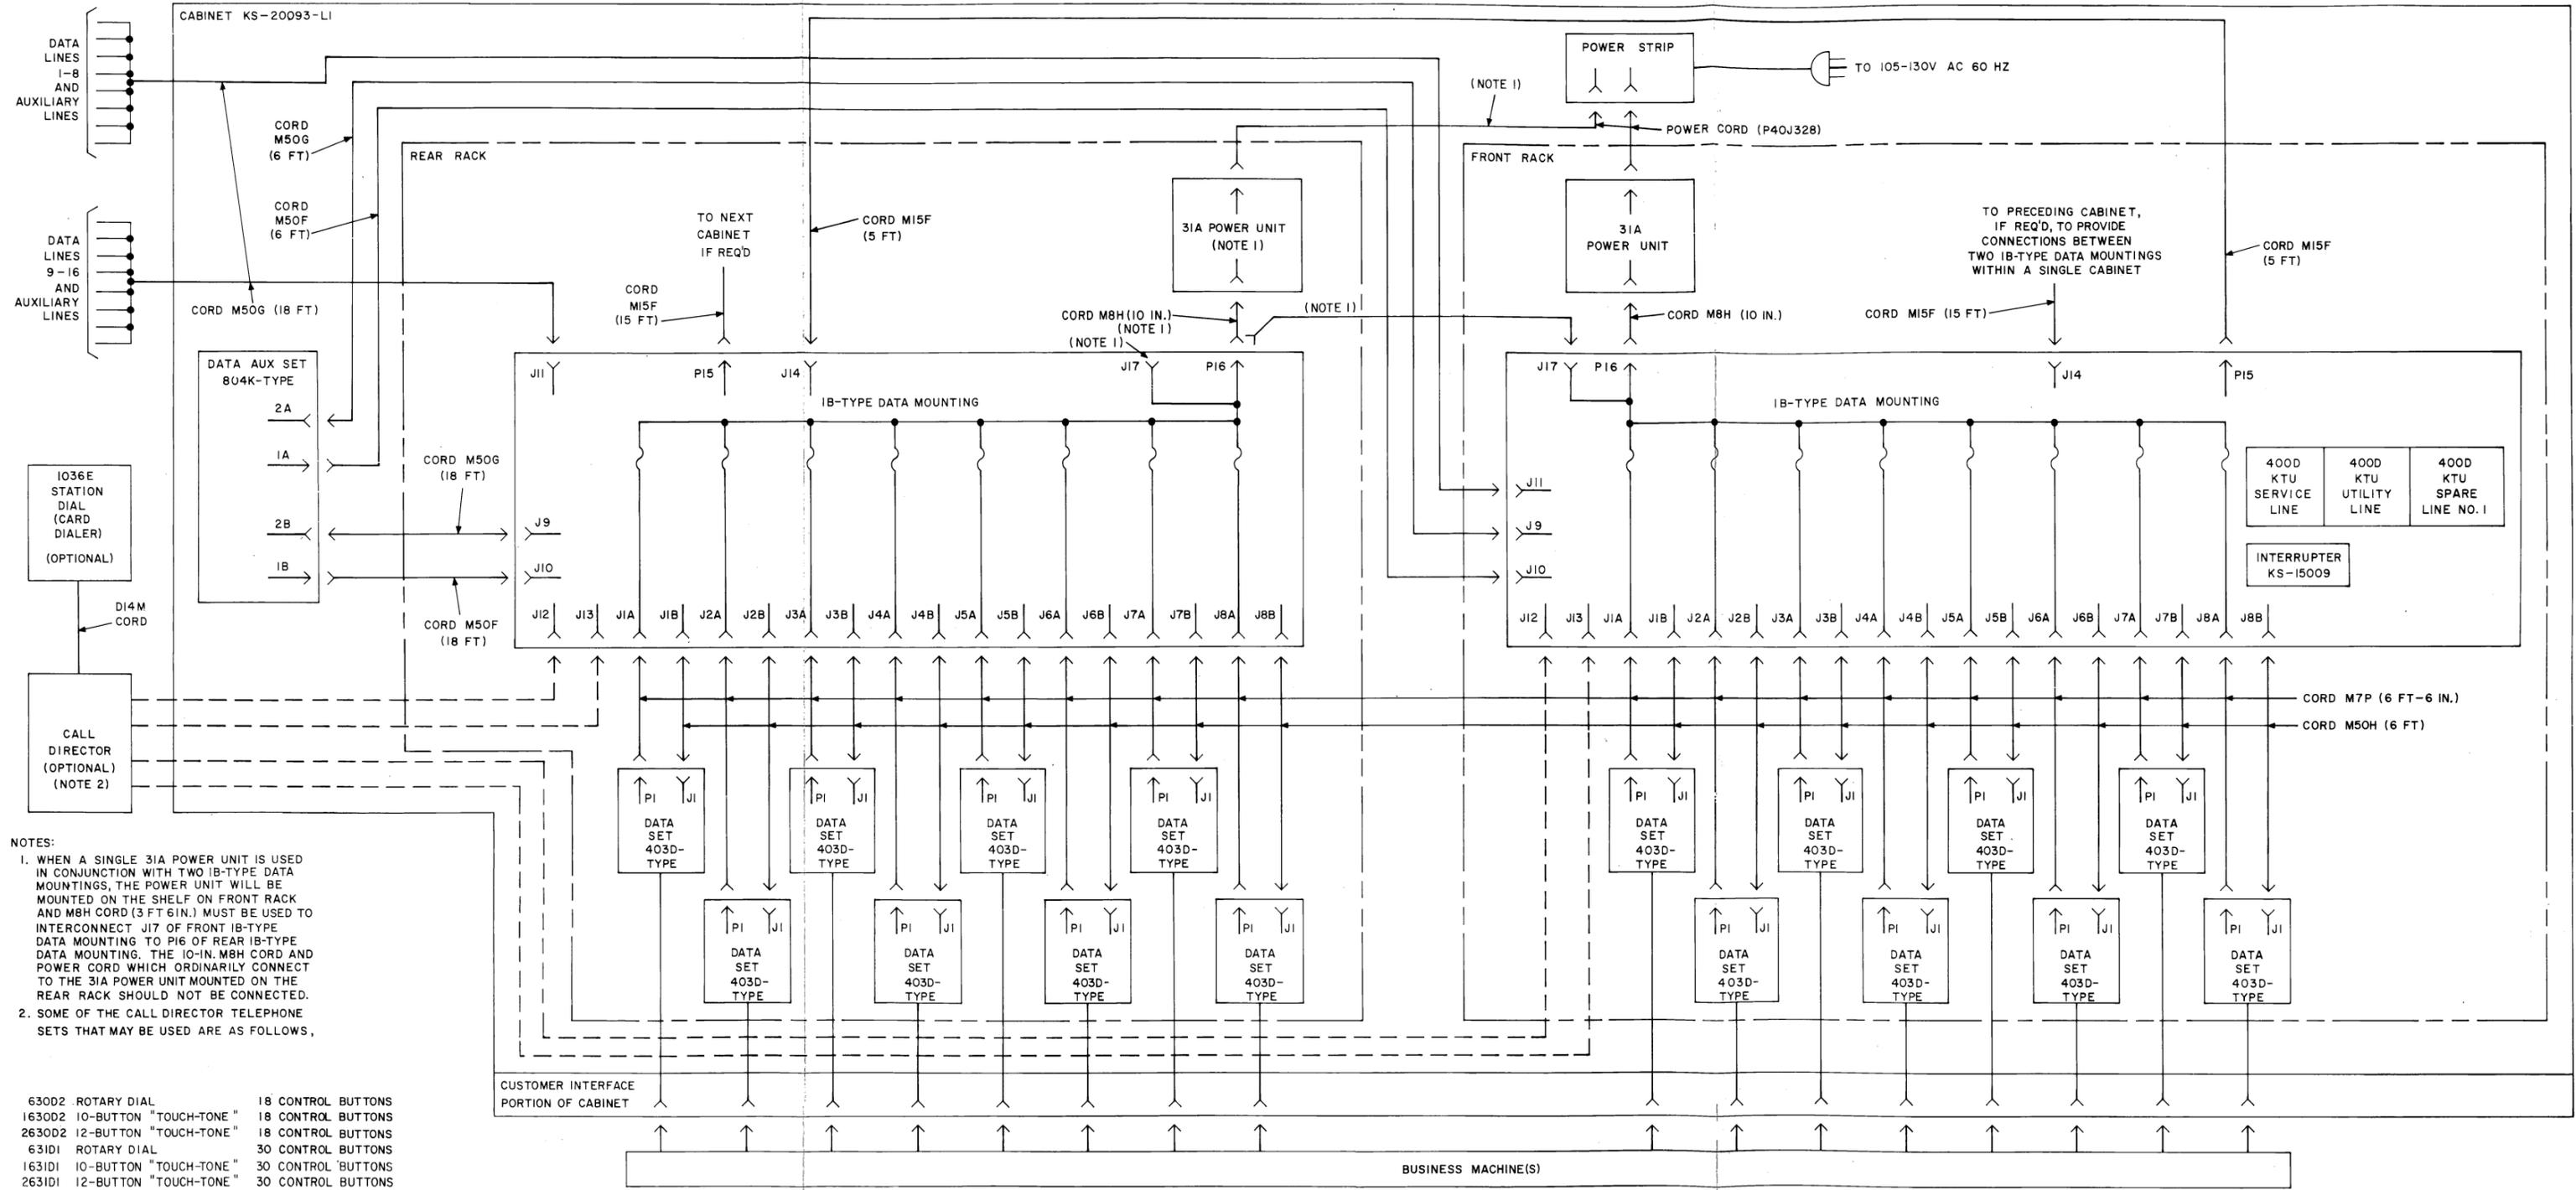

Fig. 8—Block Diagram of a 16-Line Data Set 403D-Type Station
5.01 Make all connections in accordance with Fig. 8 and Table B.